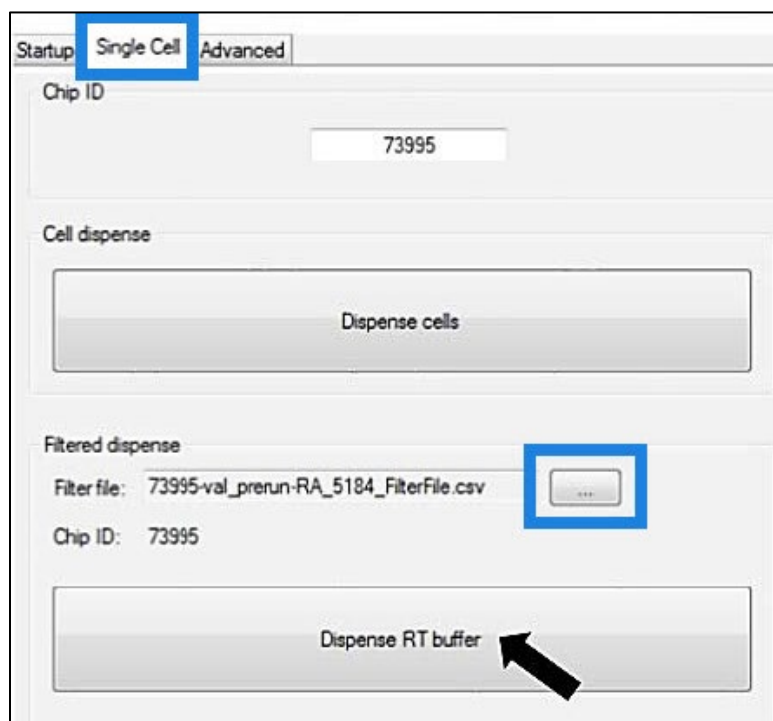

Figure 41. Loading the filter file and dispensing RT-PCR mix with the MSND software.
- In the ICELL8 MSND GUI, load the filter file generated in the previous protocol (Section V.D, above); click the **Single Cell** tab followed by the **Browse** button next to the *Filter file* field (“...”; Figure 41, below) then select the appropriate filter file (.csv). Click within the Chip ID field and enter or scan the corresponding chip ID (refer to the ICELL8 MSND User Manual for more details):